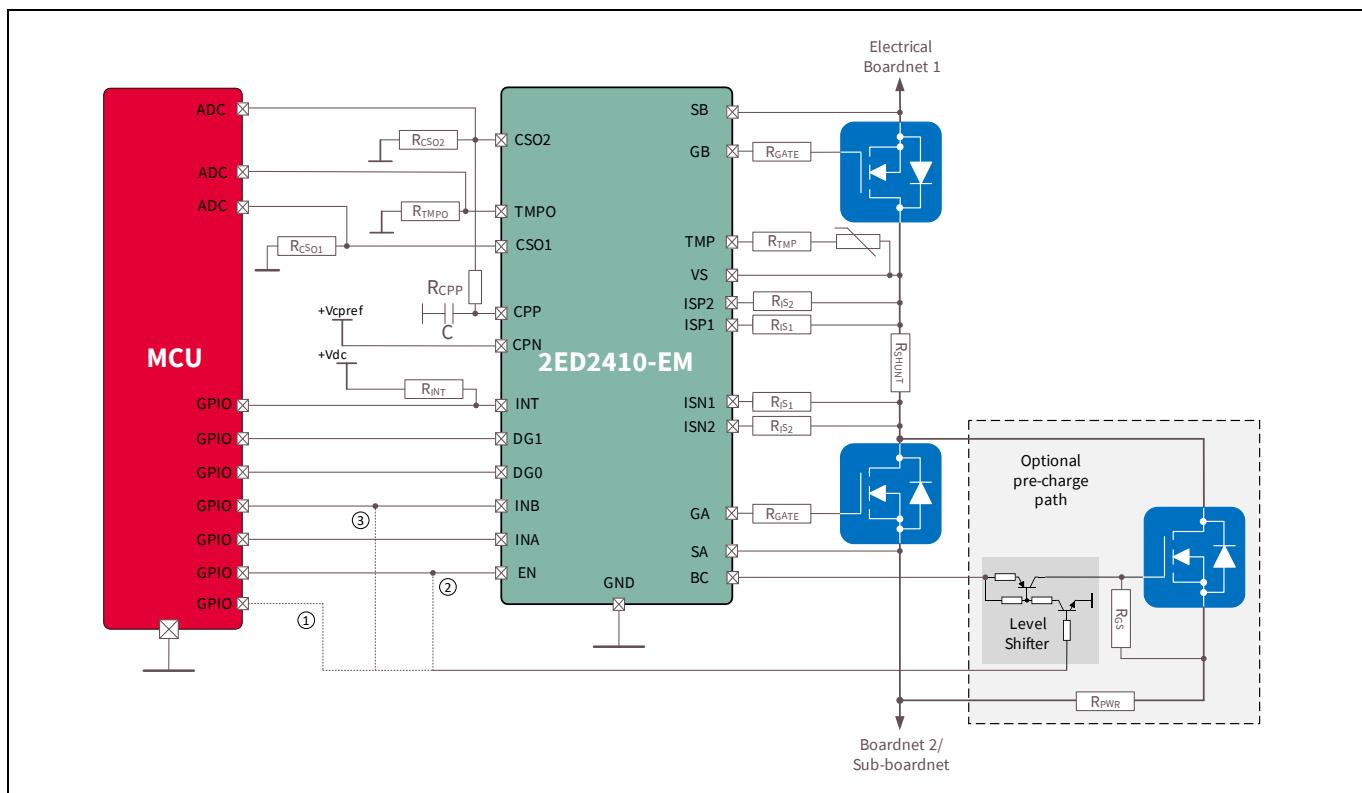

Figure 11 Power supply protection (PSP) switch example, with pre-charge circuit and its different control options
In equation (10), R_{NTC} is the thermistor (in this case an NTC thermistor) resistance which varies with the temperature, and R_{TMP} is a normal resistor used to linearize the thermistor behaviour with respect to temperature, positioned as per figure 11. Therefore, V_{TMPO} can be written as: